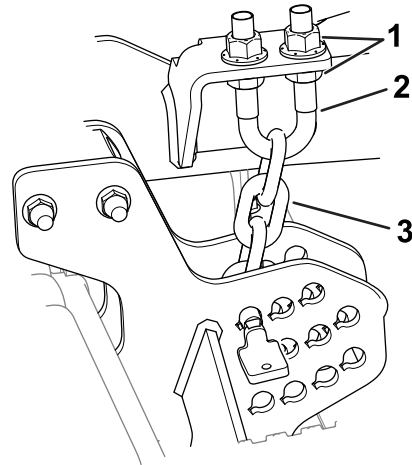

Figure 10
6. Loosen the jam nuts at the top or bottom of the height-of-cut chain U-bolt (Figure 10).